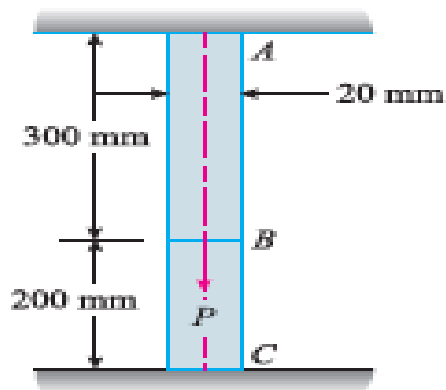

Fig. 4.1
**EXAMPLE 4.1.** A square bar of 20 mm side is held between two rigid plates and loaded by an axial force  $P$  equal to 450 kN as shown in Fig. 4.1.